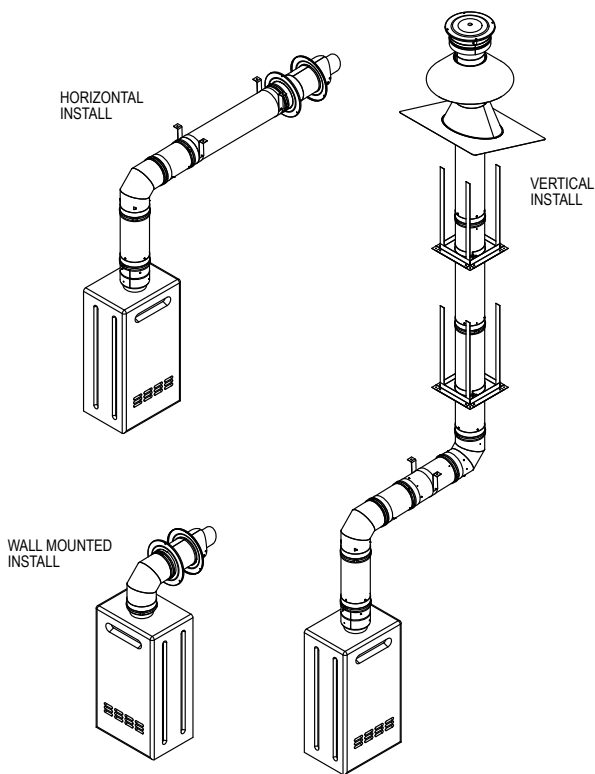

Figure 2
Refer to **Figure 2** for some typical installations. Always check with the appliance manufacturer for requirements or restrictions with the venting. To determine the installed length of vent pipe, subtract 1-1/4" for each joint due to the joint overlap.
5. Install Vent. Once the vent path and components have been determined, install the vent. Align the male and female pipe ends as described in the Joint Connection section, push together and twist lock (**Fig 2**). Note the direction of the pipe is important. The outer wall female end must face downward/towards the appliance; and the outer wall male end must face upward/away from the appliance. The direction is to ensure correct condensate drainage and weatherization.